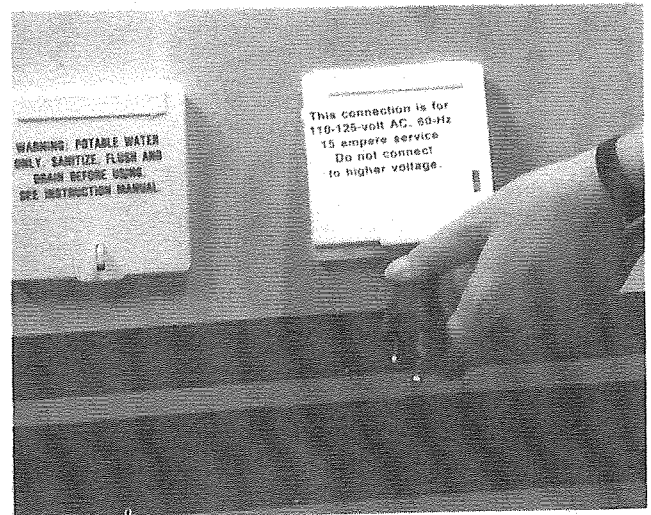

FIG. 34 - External Power Supply Cord
2. Disconnect the plug from the campsite outlet and return the extension power cord and plug to its own storage location. Close the cable hatch. (See Fig. 34)